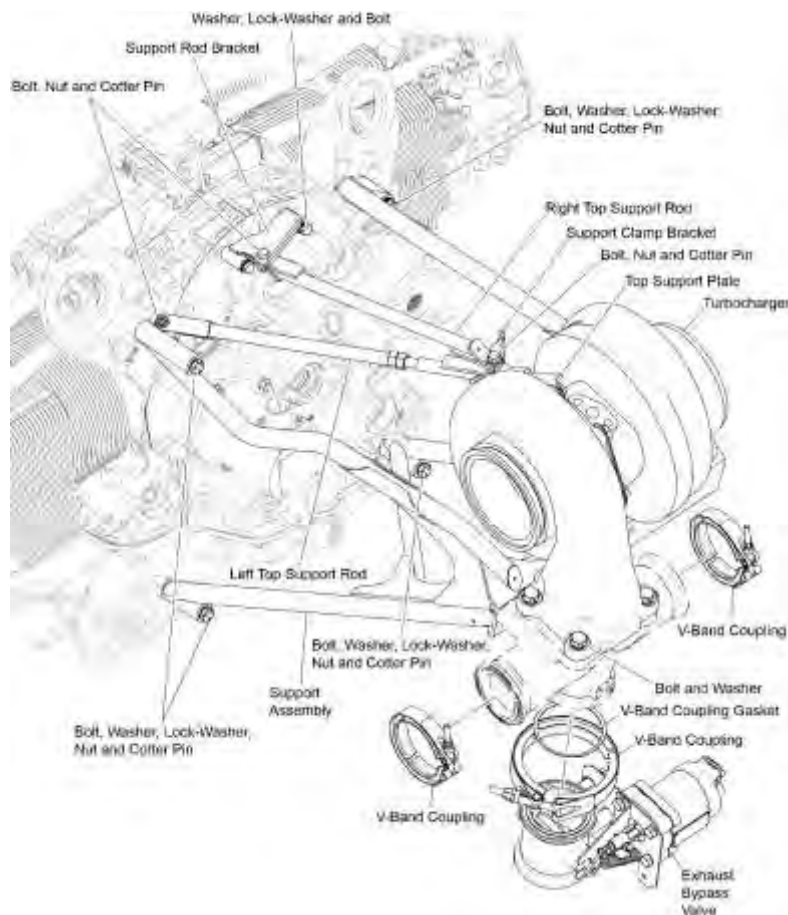
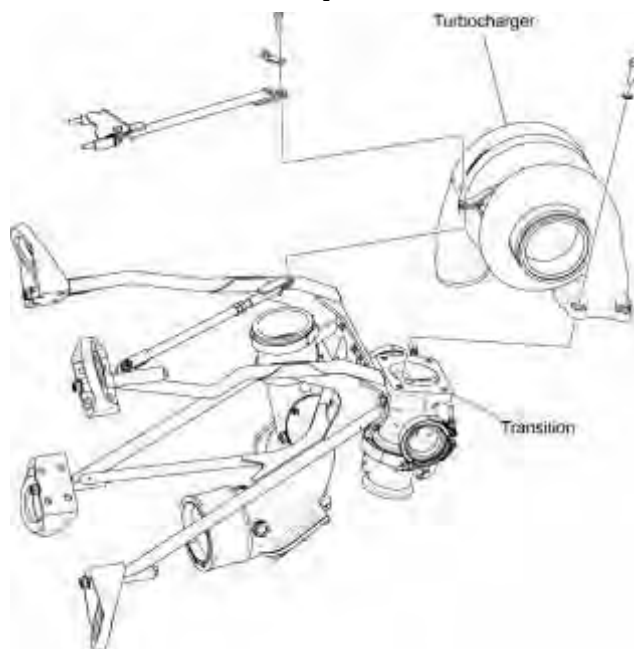
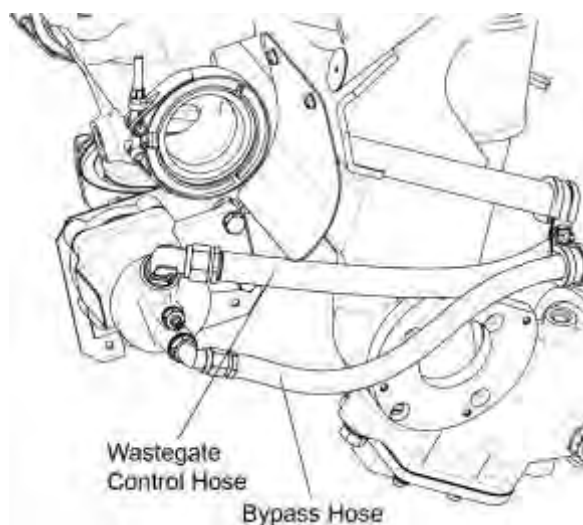

Figure 6
Figure 7
Figure 8
- L. Remove the cotter pin from the bolt through the support clamp bracket, top right support rod, top support plate, and top left support rod (Figure 6).
- M. Remove the bolt and nut from the support clamp bracket, top right support rod, top support plate, and top left support rod (Figure 6).
- N. Loosen the T-bolt clamp on the turbocharger end of the hose that attaches the air inlet box (Figure 7) to the turbocharger.
- O. Hold the turbocharger in place and remove the four bolts and four washers (Figure 6) that attach the turbocharger to the exhaust transition.
- C. Hold the turbocharger in place with the exhaust side mating flange against the exhaust transition (Figure 7). Install the bolts (Figure 6) through the turbocharger mating flange in the exhaust transition each with a washer. Torque the bolts to 30 ft.-lb. (41 Nm).
- E. Install the bolt through the support clamp bracket, top right support rod, top support plate, and top left support rod (Figure 6).
- I. Attach the hose assembly to the reducer adapter (Figure 6) on the turbocharger. Torque the hose per torque values in the latest revision of the **Service Table of Limits - SSP-1776**.
- (1) Disconnect the bypass hose from the exhaust bypass valve (Figure 8).
- (2) Disconnect the wastegate control hose from the exhaust bypass valve.
- (3) Remove the V-band coupling and gasket (Figure 6) that attaches the exhaust bypass valve to the exhaust transition. Discard the gasket.
- (4) Remove the exhaust bypass valve.
- (1) Attach the exhaust bypass valve to the exhaust transition with the V-band coupling and new gasket (Figure 6).
- (2) Torque the V-band coupling per the Standard Torque Tables in the latest revision of the **Service Table of Limits - SSP-1776**.
- (3) Connect the wastegate control hose (Figure 8) to the exhaust bypass valve. Torque the wastegate control hose fitting per the Standard Torque Tables in the latest revision of the **Service Table of Limits - SSP-1776**.
- (4) Connect the bypass hose (Figure 8) to the exhaust bypass valve. Torque the bypass hose fitting per the Standard Torque Tables in the latest revision of the **Service Table of Limits - SSP-1776**.